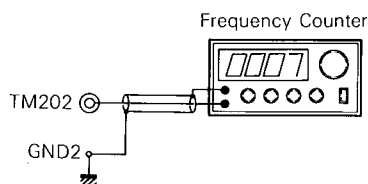

Fig. 13
- (1) Connect the frequency counter to TM202 (CLK) and GND2. (Fig. 13)
- (2) Remove wire connector CN203, turn the power switch on.
- (3) Rotate the L201 core and adjust so that the frequency counter shows a value of 4.3218MHz $\pm$ 0.02MHz.
- (4) After adjusting, turn the power off and connect the CN203 wire connector.